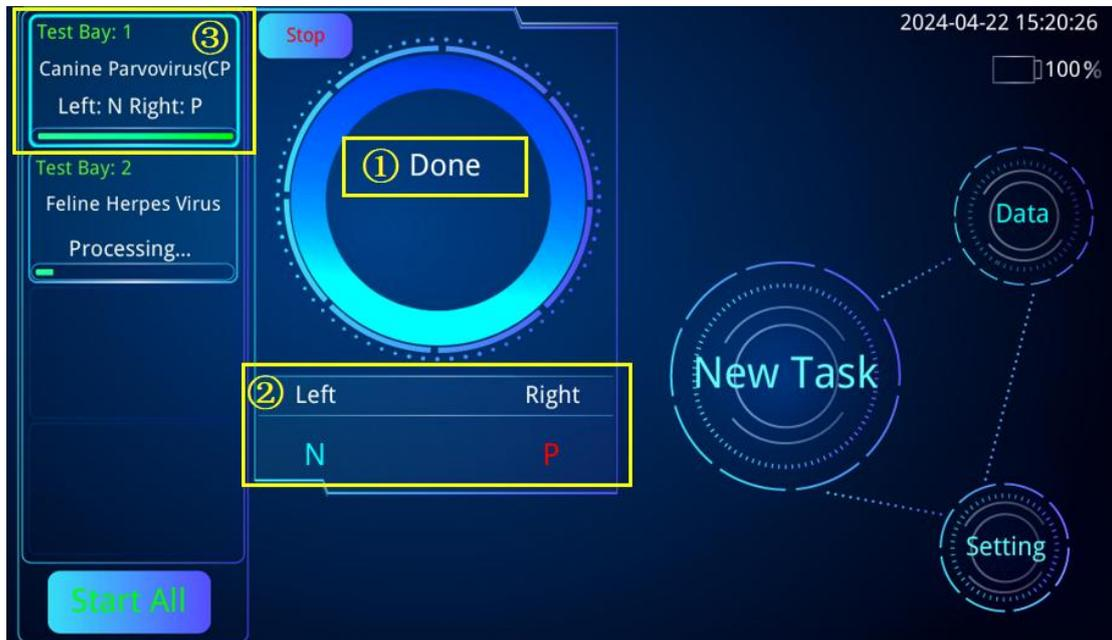

Figure 16 Main Page (Test Done)
After a “Beep”, the status of the selected task in the middle Time Circle will automatically change to “Done”, indicating that the testing is completed (Figure 16 ①). The results will be shown under the middle Time Circle, displaying “P” or “N” under “Left” or “Right” (Figure
16 ②), respectively, indicating the results for the Left Lane and Right Lane of the Test Card (Figure 16 ③). “P” means Positive; “N” means Negative.
You can view the results of the selected task both under the middle Time Circle (Figure 16 ②) and in its Status Box in the Taskbar on the left of the screen (Figure 16 ③) when the test is completed.